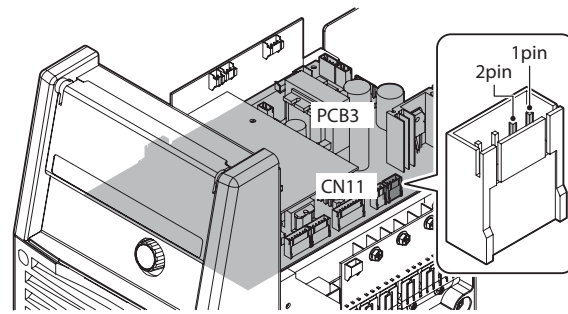

Figure 11-12: Verification of the FAN1
1) Verify the condition of the cooling fan, FAN1, using a DC voltmeter. (The capability of the voltmeter should be more than 50VDC.) Using a DC voltmeter, measure between PIN 1 (Positive [+]) and PIN 2 (Negative [-]) of CN11 on PCB3 (WK-5548). The location of connector CN11 of PCB3 is indicated in Figure 11-12. When you measure the above voltage, do not remove the connector. Conduct the measurement while the connector plug and receptacle are still connected.